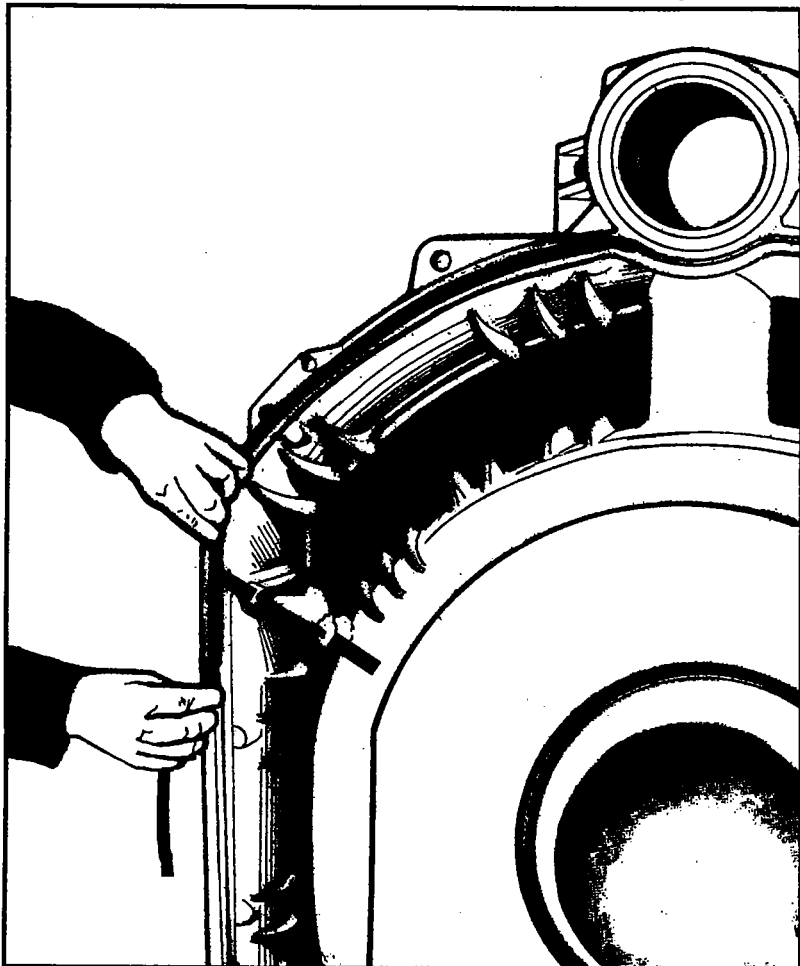

Figure 10.4 – Fitting Mastic Seal
- b. Fit sealing mastic to grooves around both perimeter of section and combustion chamber and the two small grooves either side of the fitted flue plates (Fig. 10.4). Should mastic rope break during this operation, the two ends **MUST** be overlapped to avoid any leakage.